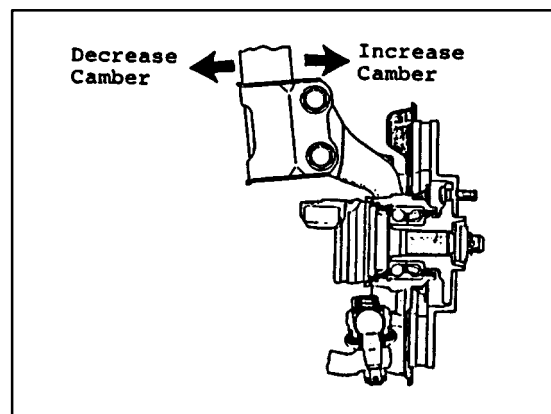

fig. 6
- IV. Push or pull the lower side of the shock absorber in the direction in which the camber adjustment is required (see fig. 6). Then torque the nuts making sure not to move the bolts.